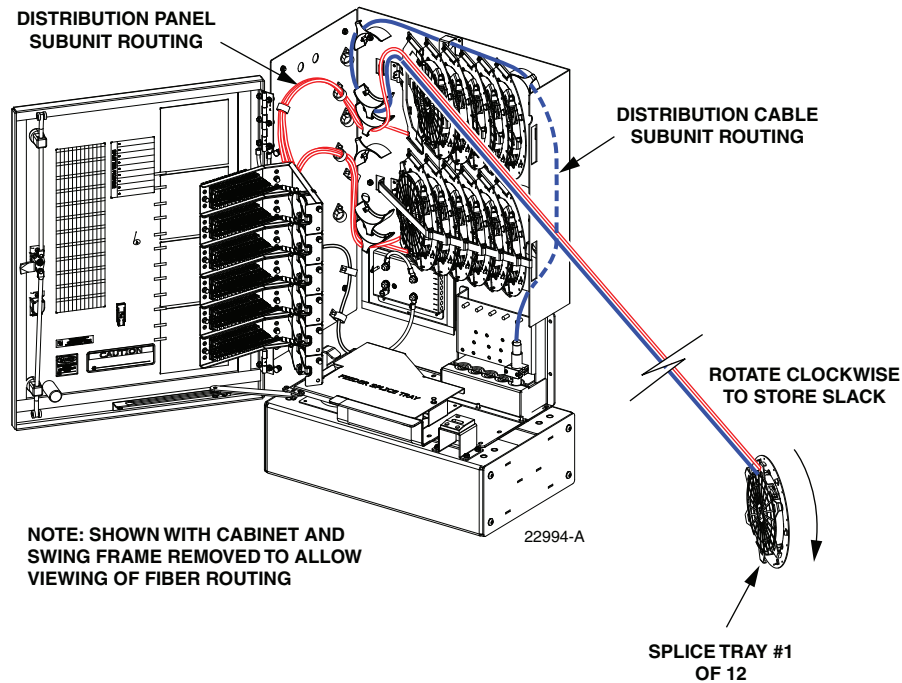

Figure 38. Store Excess Slack
16. Replace the splice wheel top cover and then turn the splice wheel in a clockwise direction to roll up the excess slack as shown in Figure 38